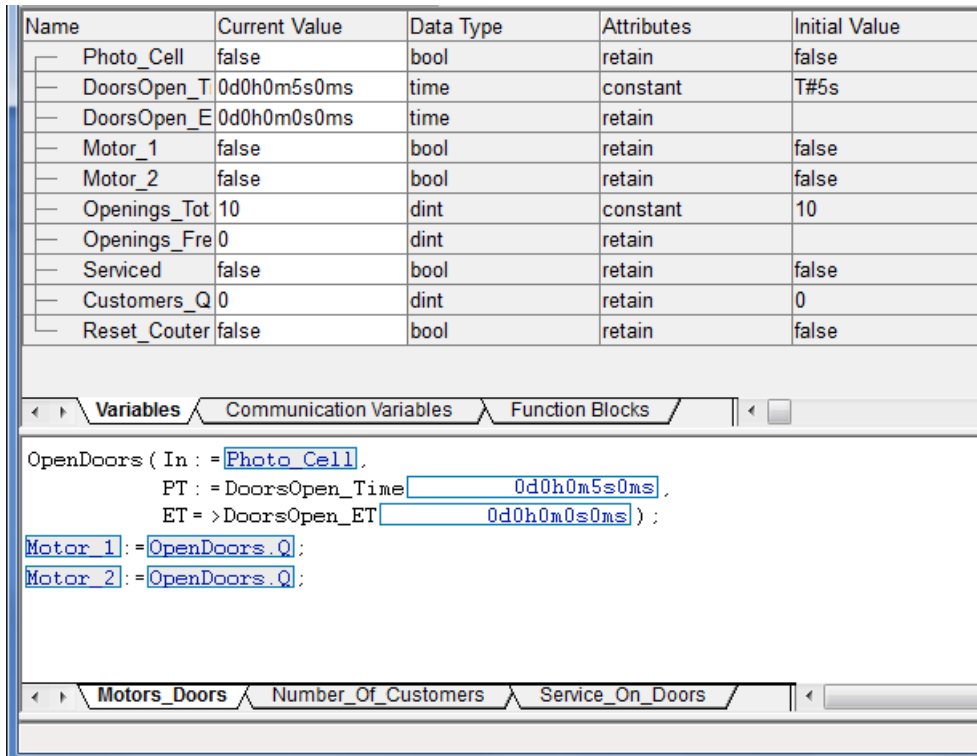

Figure 34. The Program2 editor in Test mode.
5. Select **Motors_Doors** tab. All variables in **Program2** are listed in the upper pane and the code in the lower pane, see Figure 34.